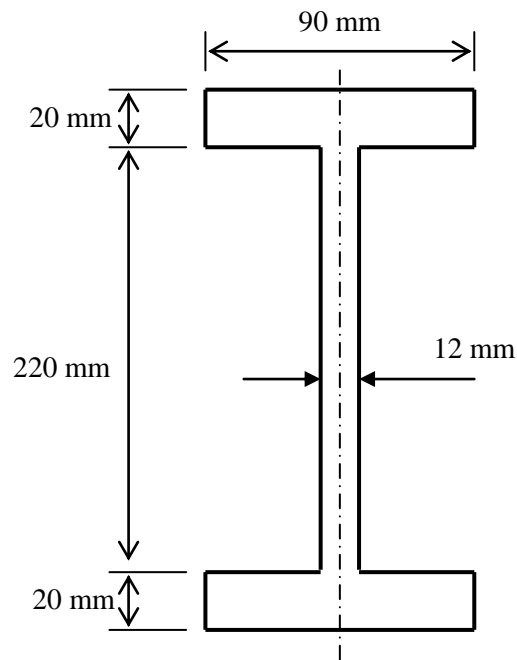

Fig Q9
9. A steel beam of symmetrical I section is shown in Fig Q9. The beam has a mass of 30 kg per metre run and is 9 m long. The beam is simply supported at each end and the maximum bending stress is not to exceed 140 MN/m^2 at any point.